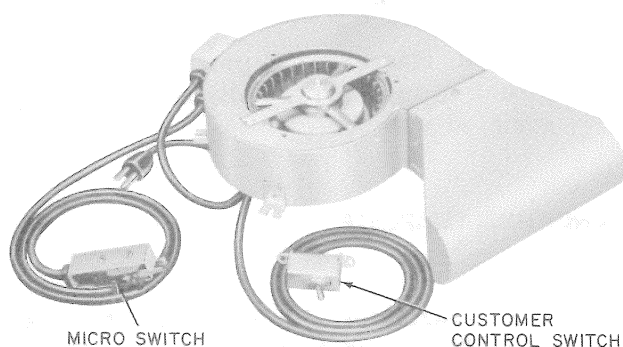

Fig. 9—KS-16797, List 9 (MD) Blower Assembly
- 2.18** Booth ventilation is provided by use of a KS-16797, List 9 (MD) blower assembly (Fig. 9). The assembly includes an interlock switch mounted in the door track to control the operation